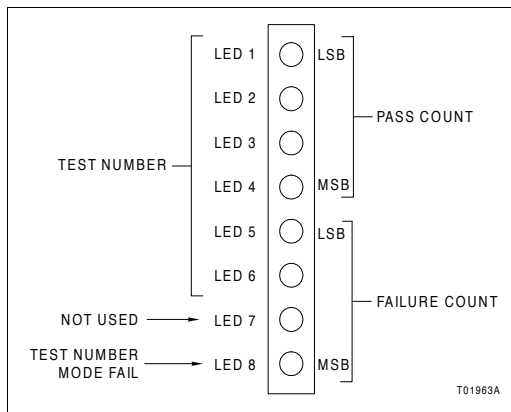

Figure PR14-1. Diagnostic Test LED Indications
- ☐ 7. Observe the front panel status indicators to determine if the test passed or failed (Fig. PR14-1). In general if a diagnostic test fails, replace the module. Table PR14-4 describes each test.